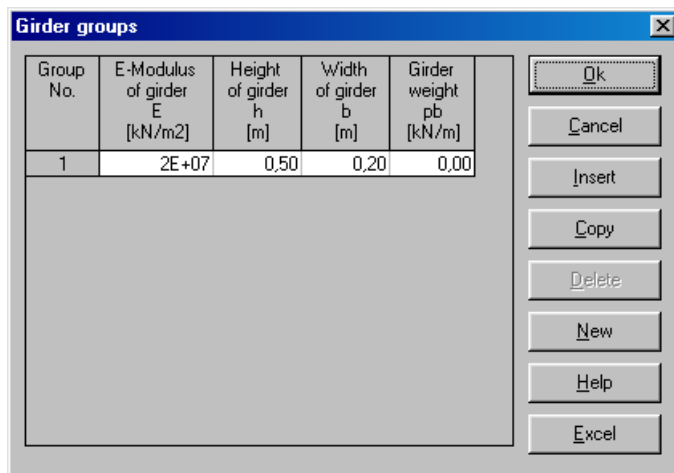

Figure 7-13 "Defining girder groups" list box
After clicking "OK" button in the "Cross section definition" option box, the following list box in Figure 7-13 appears.
- Enter the material properties of the girder, cross-section dimensions and the girder weight as indicated in Figure 7-13. This is done by entering the value in the corresponding cell and press "Enter" button